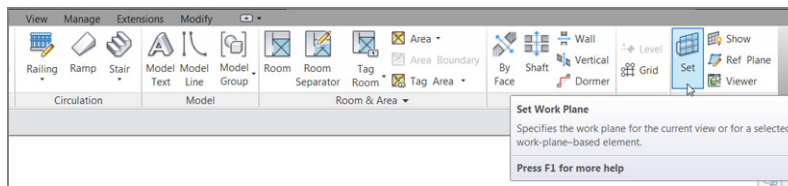

FIGURE 12.77: The Set button on the Work Plane panel of the Architecture tab
2. On the Architecture tab, click the Set button in the Work Plane panel, as shown in Figure 12.77.